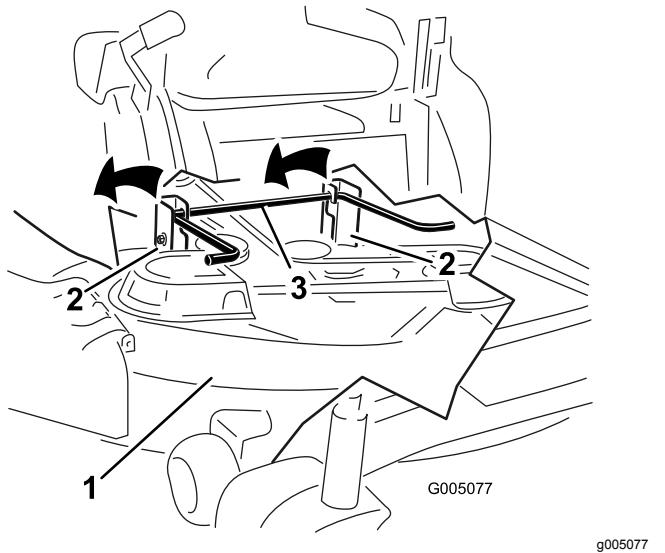
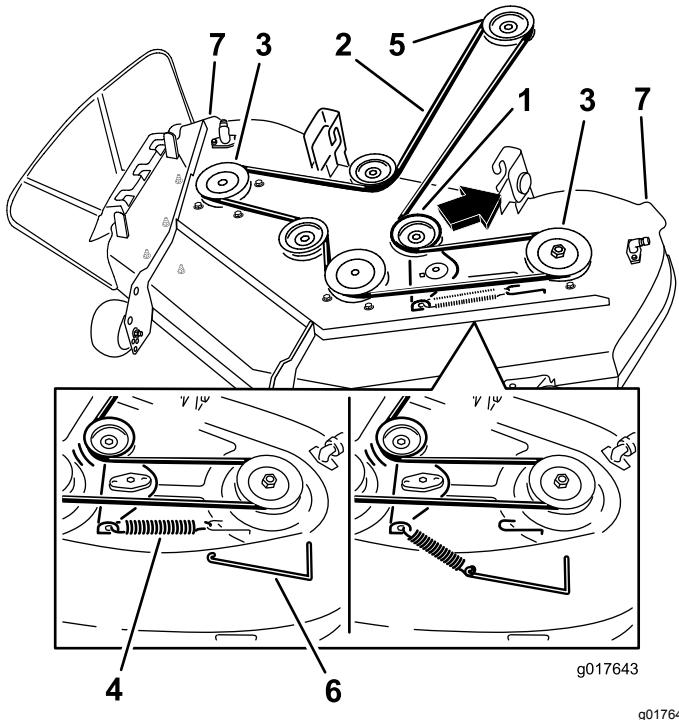

Figure 61
Figure 64
5. Using the mower deck handles, lift the mower deck and hanger brackets clear of the rear lift rod and lower the mower carefully to the ground (Figure 61 and Figure 64).
4. Using a spring removal tool, (Toro part no. 92-5771), remove the idler spring from the deck hook to remove tension on the idler pulley and roll the belt off of the pulleys (Figure 64).
5. Route the new belt around the engine pulley and mower pulleys (Figure 64).
6. Using a spring removal tool, (Toro part no. 92-5771), install the idler spring over the deck hook and placing tension on the idler pulley and mower belt (Figure 64).
5. Lift the rear of the mower deck and guide the hanger brackets over the rear lift rod (Figure 61).